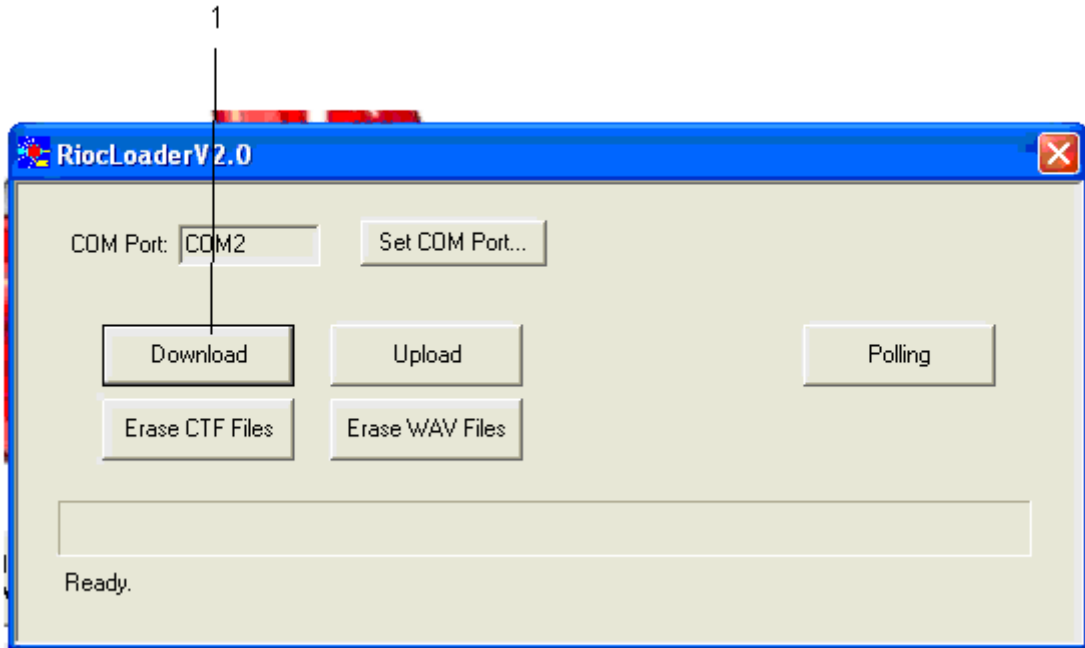

Figure 3
- (11) For RIOC 4 you must download the files that follow:
- (12) For each configuration file that must be downloaded do Step 2.B.(12)(a) thru (d).
- (a) Select the Download button (Ref. Fig 3, Item 1).